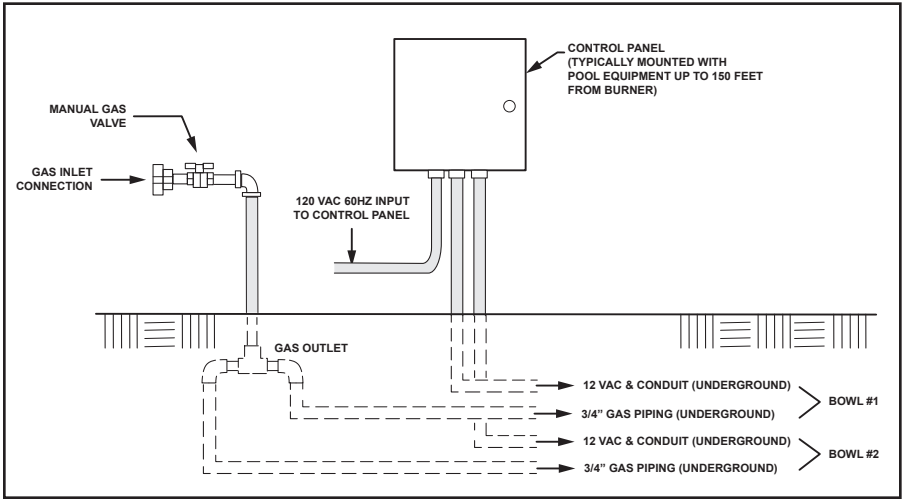
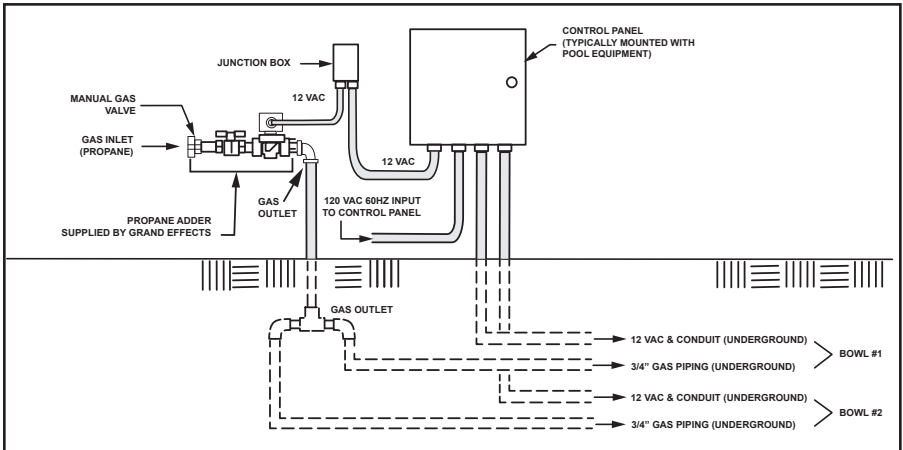
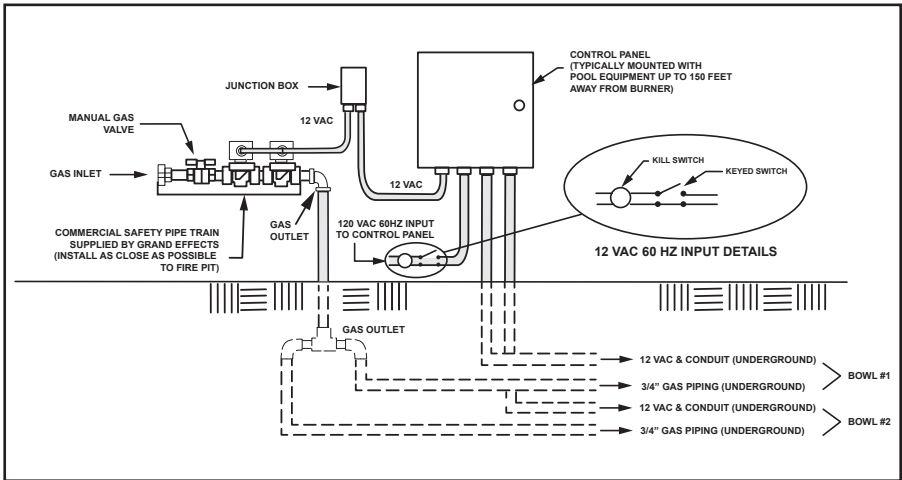

Figure 3. Natural Gas
Figure 4. Propane Gas
Figure 5. Commercial Installation
1. Install the control panel and gas piping as shown in Figure 3: Natural Gas, Figure 4: Propane Gas, or Figure 5: Commercial Installation. Gas lines must be clean and free from any dirt, debris, or contamination.
Note: Propane piping is different than natural gas piping (shown in Figure 3 and Figure 4).
2. The gas piping must be installed underground between the control panel and each fire or water bowl, as shown in Figures 3 and 4.